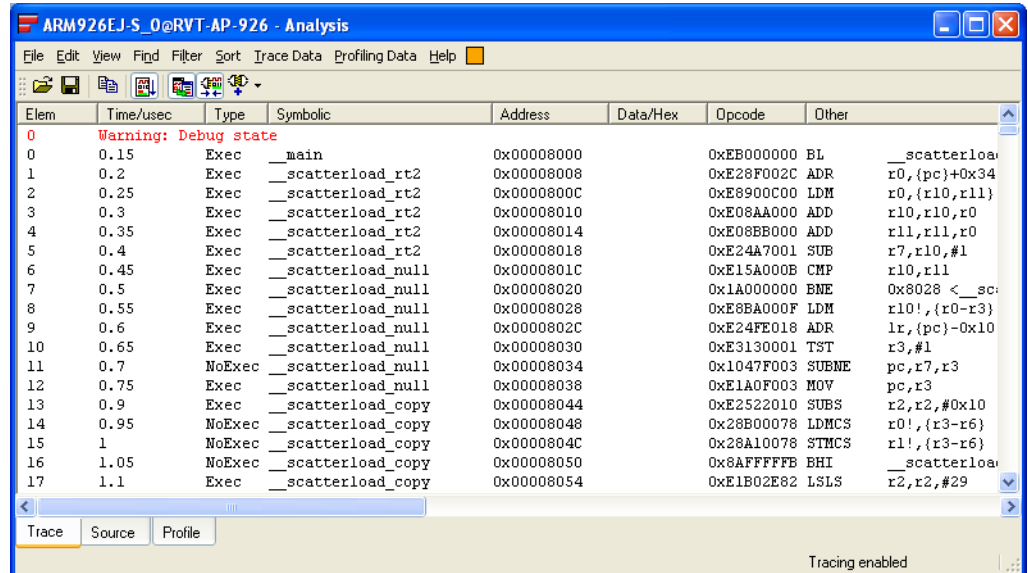

Figure 10-69 Trace captured before a trigger
4. When the trigger is activated, the captured trace is displayed in the **Trace** tab of the Analysis window. Figure 10-69 shows an example: